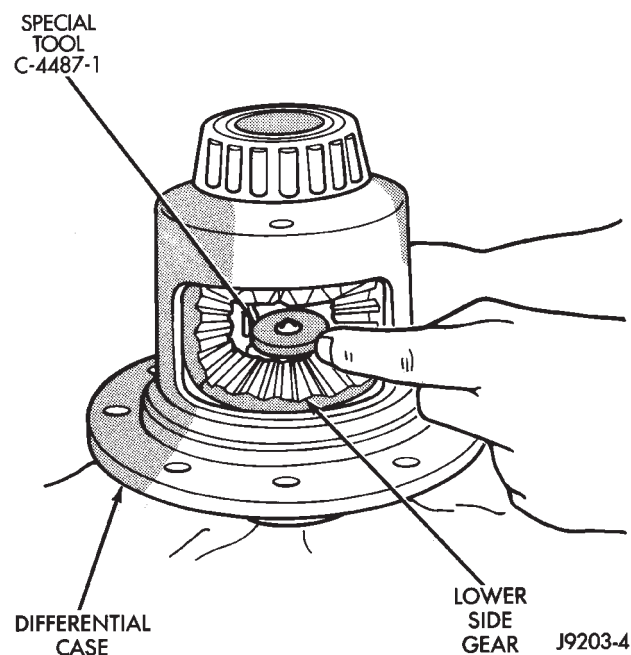

Fig. 9 Step Plate Tool Installation
(6) Install and lubricate Step Plate C-4487-1 (Fig. 9).
(7) Assemble Threaded Adapter C-4487-3 into top side gear. Thread forcing Screw C-4487-2 into adapter until it becomes centered in adapter plate.